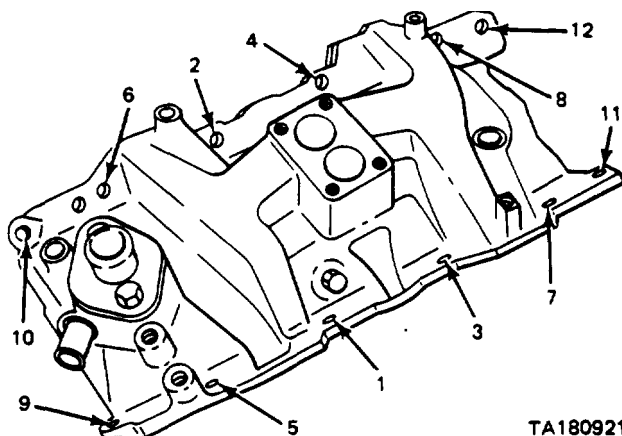

Figure 11-39. Intake Manifold Tightening Sequence.
(1) Position the rubber seals for the intake manifold over the rails at the front and rear of the cylinder block. The center hole in the seals must engage the dowel pins and end holes locked in the tangs of the head gasket.
(2) Install new intake manifold side gaskets with the bead down.
(3) Carefully lower the intake manifold into position on the cylinder block and cylinder heads. After the intake manifold is in place, inspect it to make sure the seals are in place.
(4) Install the attaching capscrews finger-tight. Tighten the capscrews to 25 ft-lbs in the tightening sequence shown in figure 11-39. Retighten the capscrews to 35 ft-lbs in the same sequence.